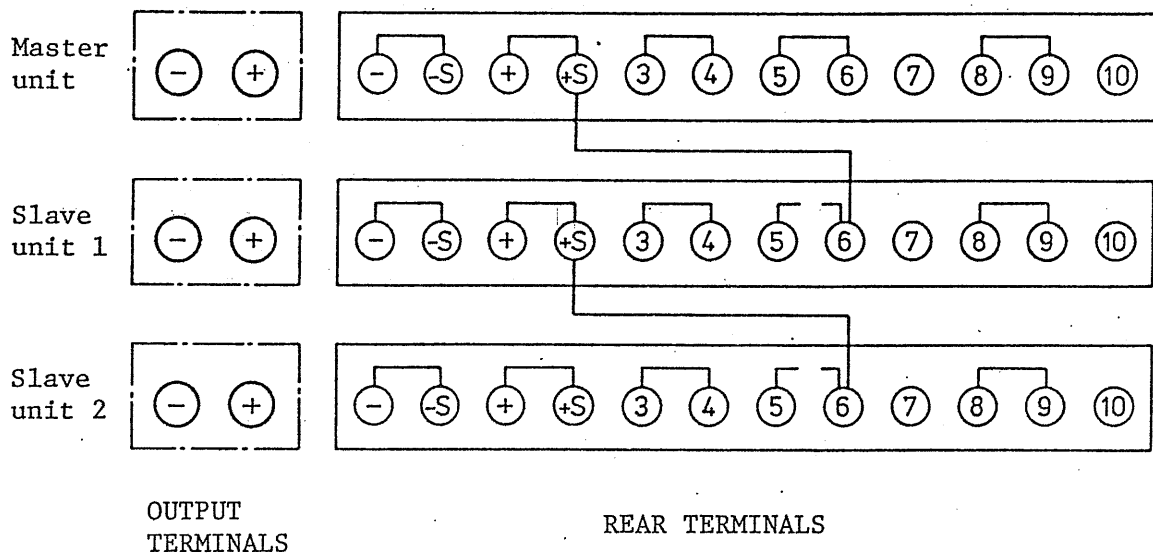

Figure 4-12. Terminal connections
2. Disconnect the jumper from between terminals ⑤ and ⑥ of each slave unit.
3. Connect ⑥ to +S as shown in Figure 4-12.